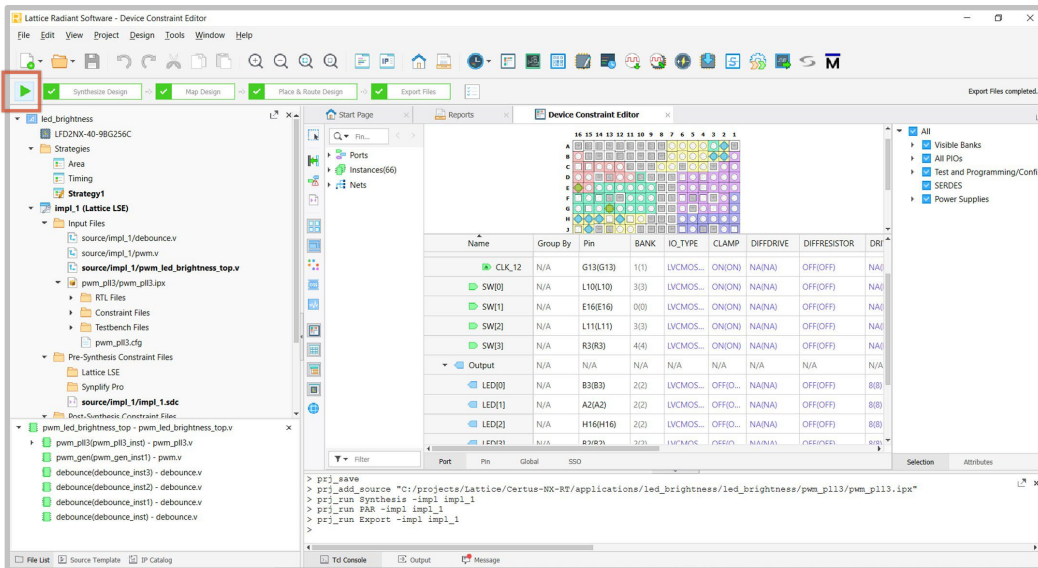

Figure 14: Compiling the Design
13. Compile the design by clicking on the **Run All** arrow, see **Figure 14**.